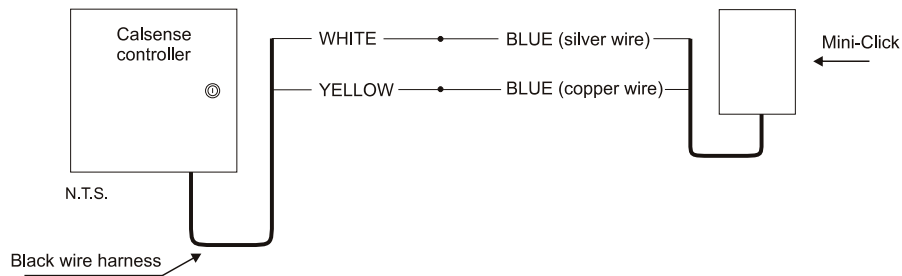

Figure 20 - Hunter Mini-Click Wiring
Sensors must be wired according to Calsense requirements (Figure 20). If using a different weather sensor, including a wireless sensor, contact Calsense at (800) 572-8608 for a wiring diagram.